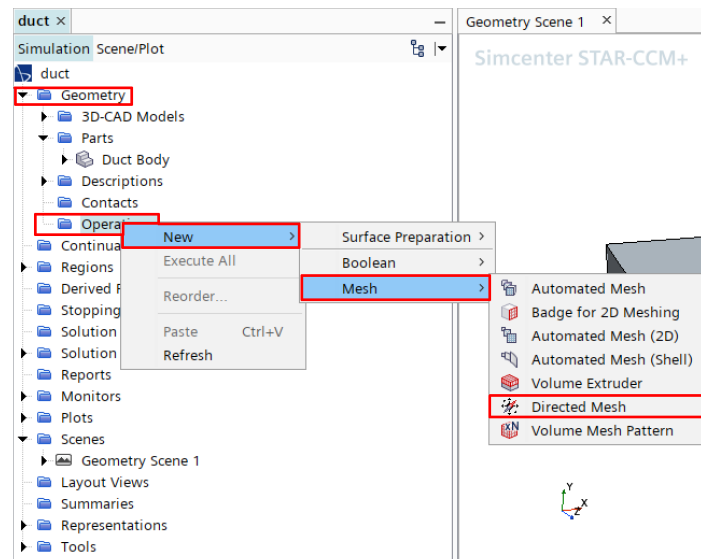

Figure 20: Process of selecting the directed mesh option.
1. To begin creating the mesh for the simulation, right click on **Geometry** → **Operations** and select **New** → **Mesh** → **Directed Mesh**, as shown in Figure 20.